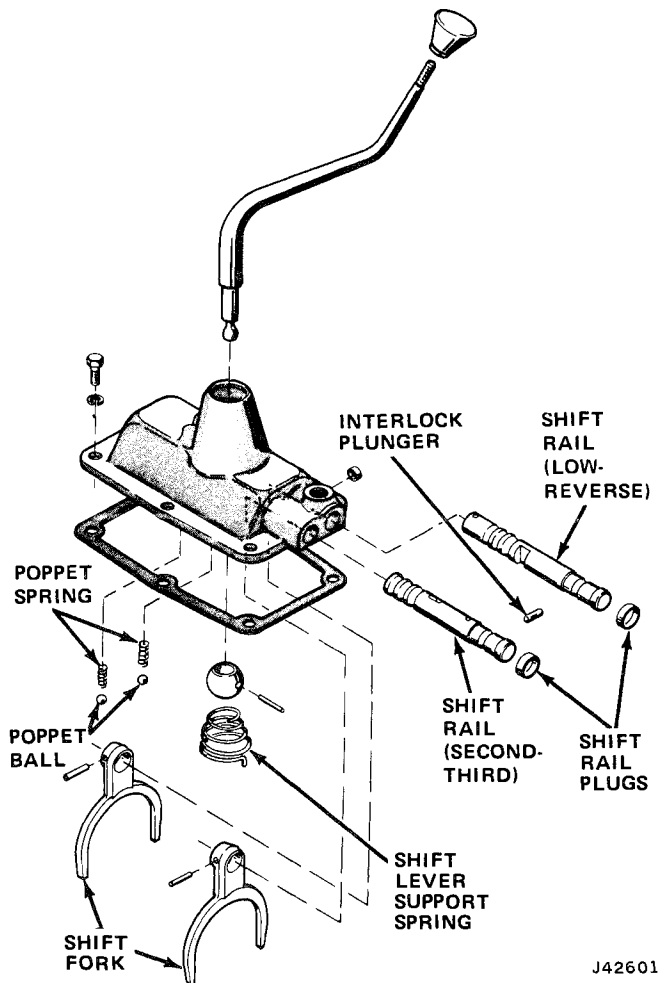

Fig. 2B-35 Shift Control Housing—3-Speed Transmission
(1) Remove TCS switch, if equipped, and backup lamp switch.
(2) Remove shift rail sealing plugs from rear of control housing (fig. 2B-35). Remove plugs by driving them sideways in bore then prying them out.
(3) Place first-reverse shift rail in first gear position.
(4) Remove roll pin from first-reverse shift fork and rail.
(5) Slide first-reverse fork rearward to expose roll pin hole in rail.
(6) Insert tapered punch in roll pin hole in shaft.
(7) Rotate first-reverse rail toward second and third rail to align groove at rear of first-reverse rail with interlock plunger. Slide first-reverse rail forward as far as possible.
(8) Remove interlock plunger.